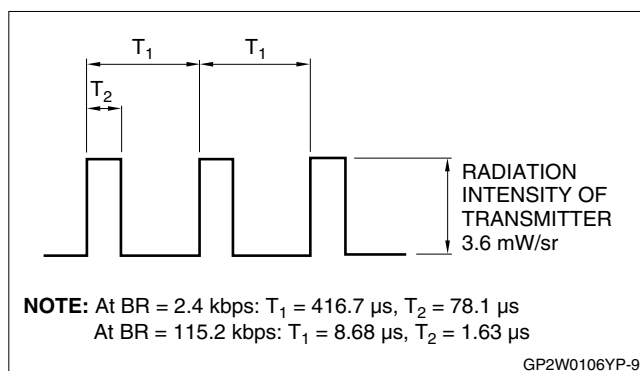

Figure 9. Input Signal Waveform (Detector Side)
- $I_{OH} = 20\text{ }\mu\text{A}$ . See Figures 9, 10, and 11.
- BR = 115.2 kbps,  $\phi \leq 15^{\circ}$ . See Figures 9, 10, and 11.
- BR = 115.2 kbps,  $\phi \leq 15^{\circ}$ ,  $T_{OPR} = 25^{\circ}\text{C}$ . See Figures 9, 10, and 11.